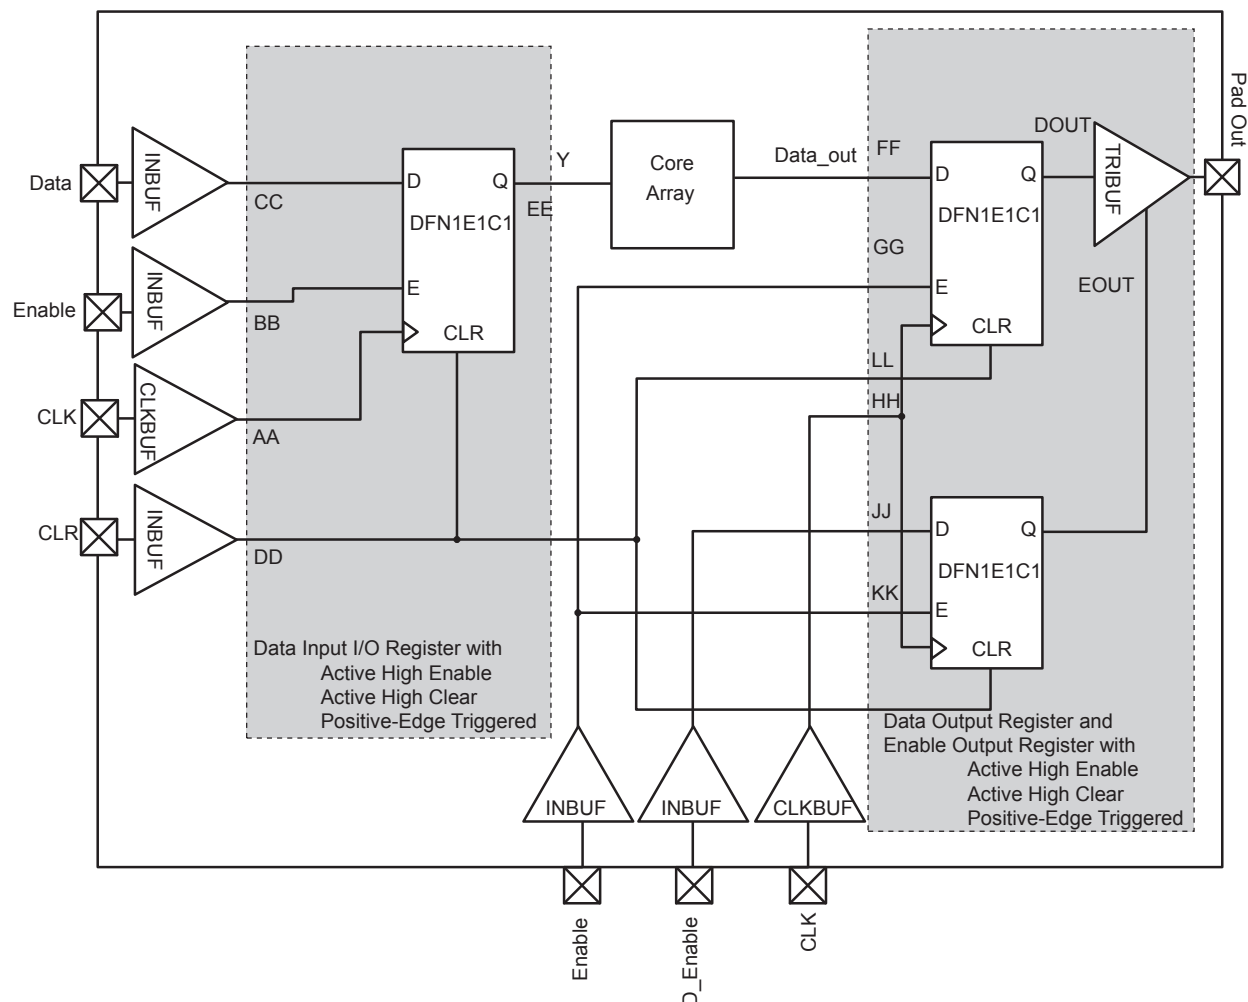

Figure 2-15 • Timing Model of the Registered I/O Buffers with Synchronous Enable and Asynchronous Clear
* See Figure 2-15 on page 2-46 for more information.